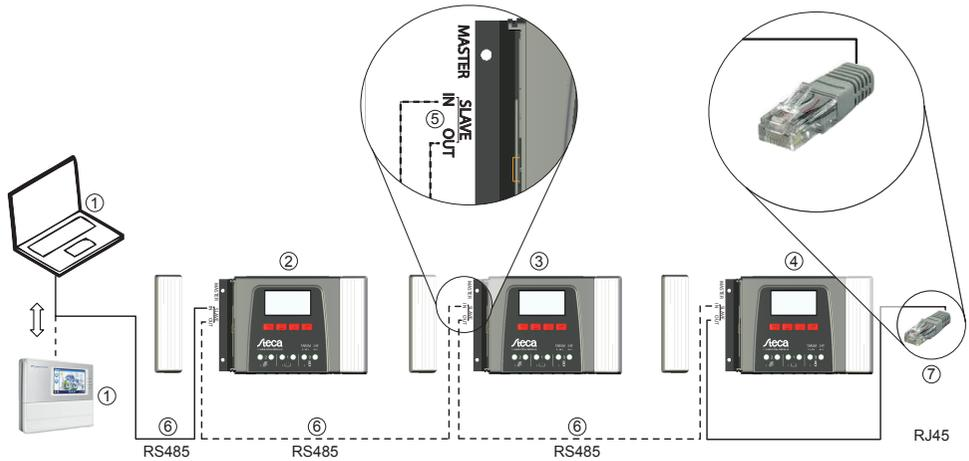

Fig. 2: Wiring the Slave bus
- Only 1 Master may be connected ① (Fig. 2). Possible Masters: PC or data logger or another Steca Master device suitable for use in stand-alone systems.
- Each Slave ②, ③, ④ must have its own unique address within a range of 1 to 99; duplicate addresses must not be present. Set the Slave address of the controller under 'Main menu' ▶ 'System settings' ▶ 'RS485 slave addr.'
- The Master at one end of the bus and the last Slave at the other end must be terminated ⑦; see Master/Slave instructions.